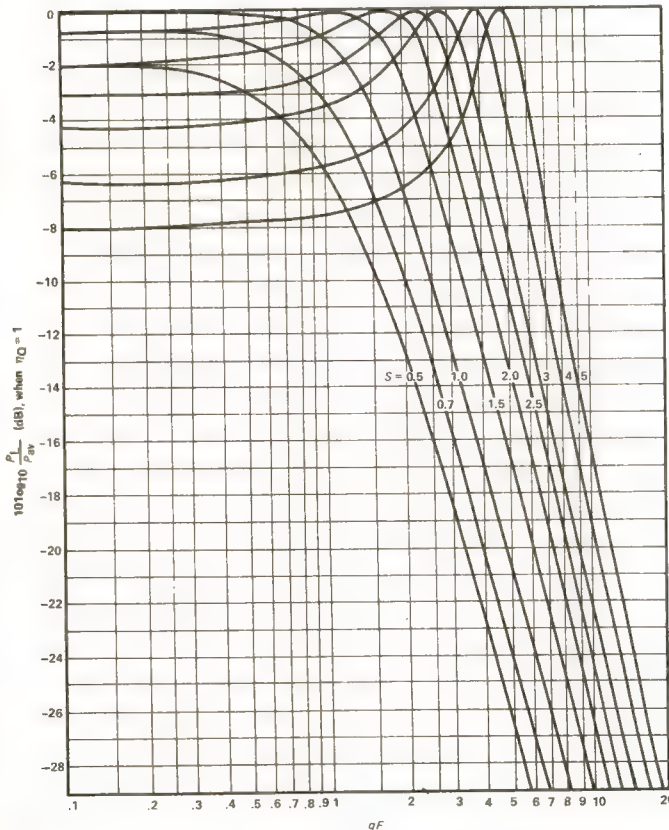

Figure 9: Relationship between qF and the power ratio.
- 2) when $S=1$, the amplitude has a flat-topped characteristic (see Figure 9) but Z_i and Z_o indicate double peak characteristics.
When $Q_{L1} = Q_{L2}$, obviously $b=2$ and equation 20 may be simplified. The result may be plotted as functions of S and qF , and this has been done in Figure 9 which presents the amplitude-frequency characteristic in the form of the relation between qF and the power ratio.
Note that equation 21 is equivalent to the second term of equation 18 and that the curves shown in Figure 9 are for $\eta_Q = 1$.